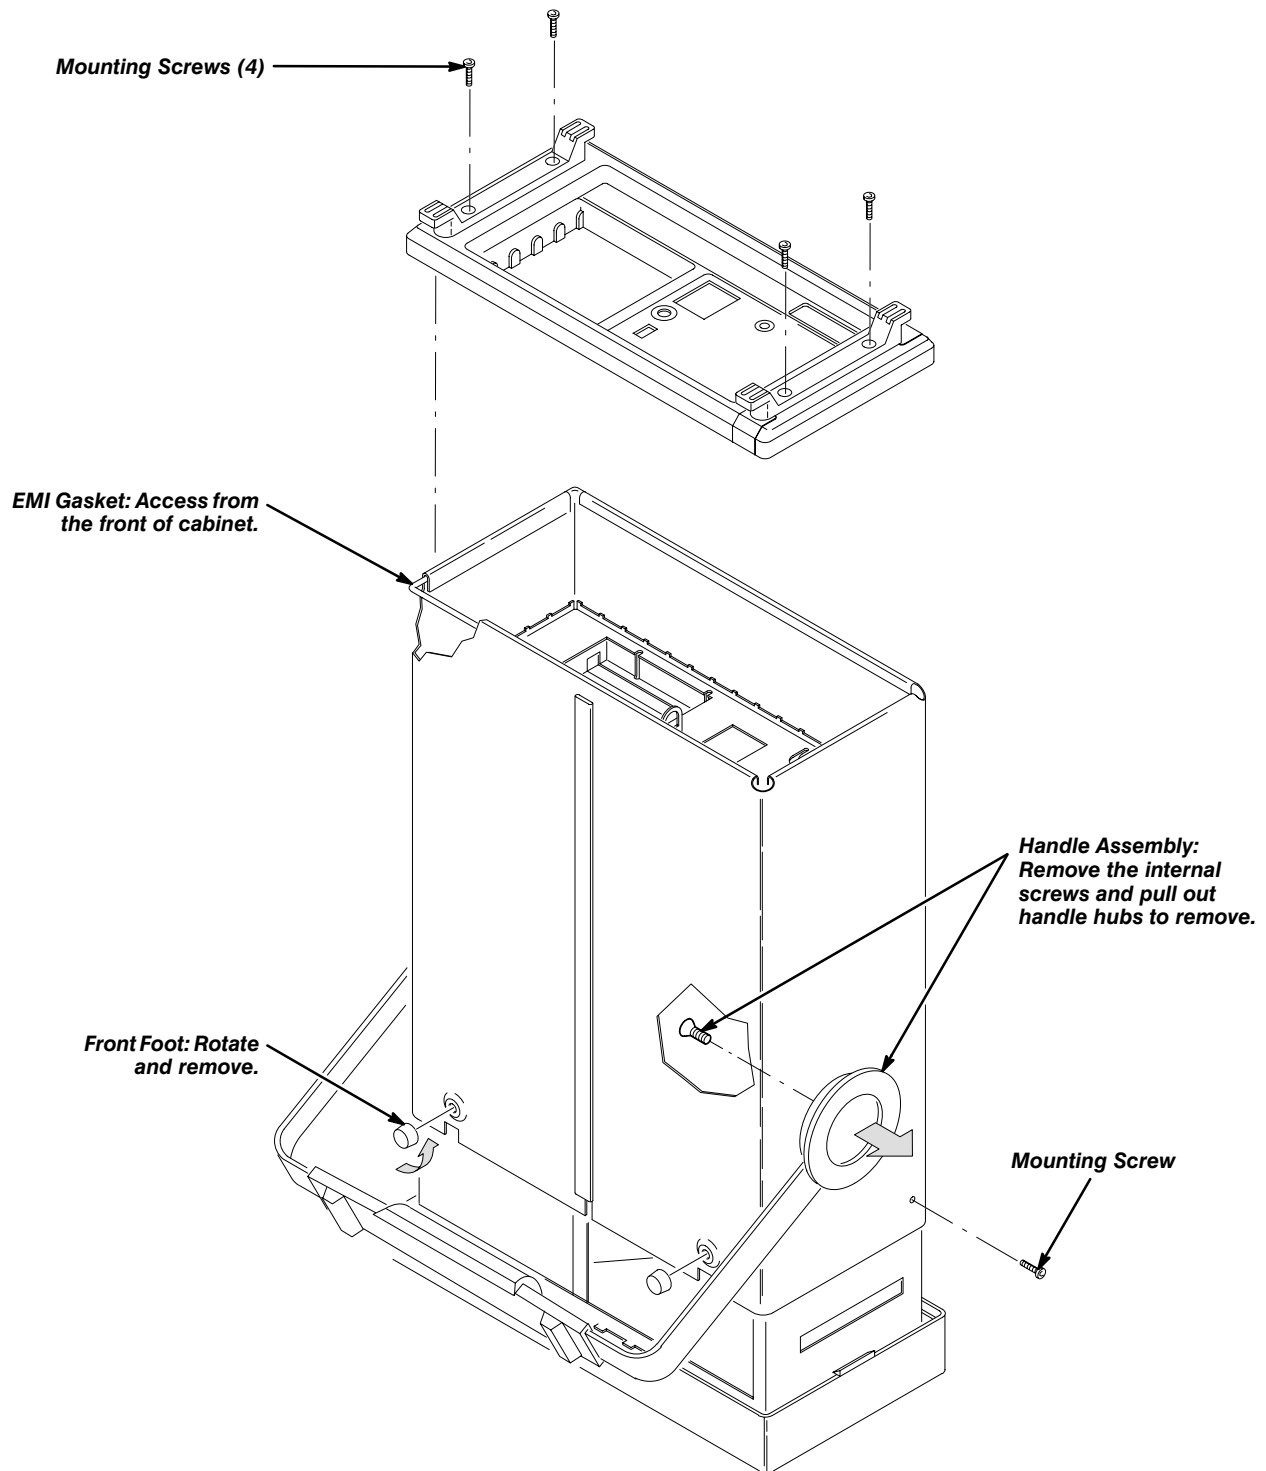

Figure 6-5: Rear Cover, Cabinet, and Cabinet Handle and Feet Removal
3. Set the oscilloscope so its face is down with its front cover on the work surface and its bottom facing you. Reference Figure 6-5 on page 6-14 as you do the following steps.